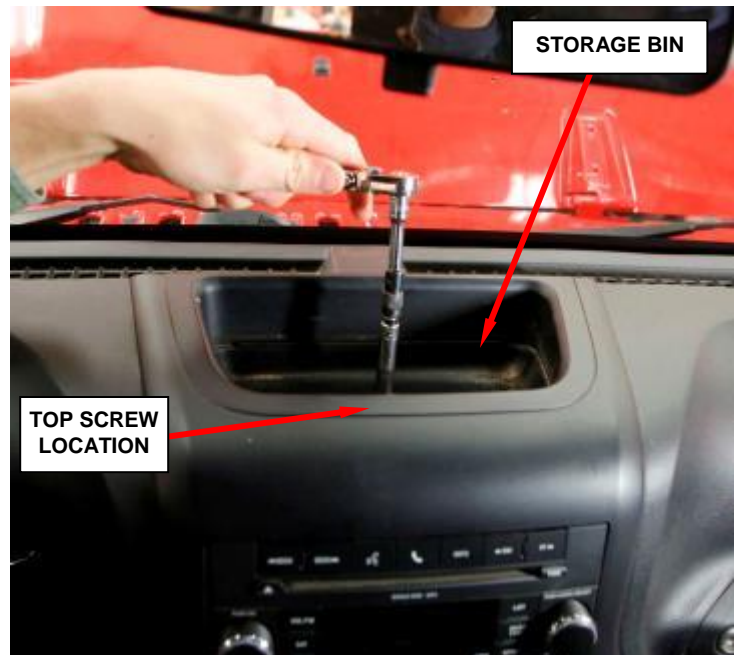

Figure 108 – Center Bezel Screws
18. Remove the storage bin mat and remove the top screw (Figure 108).